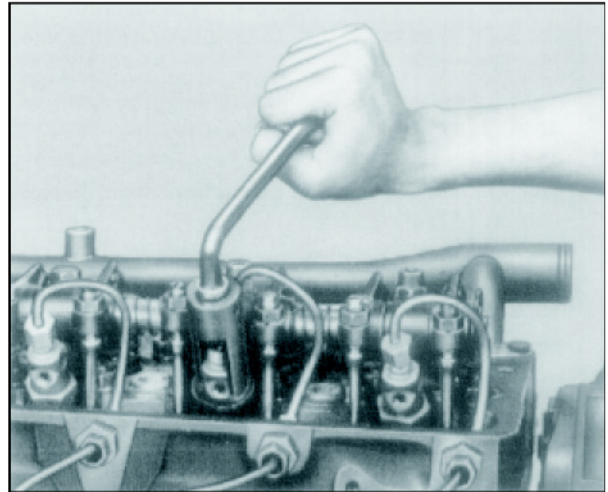
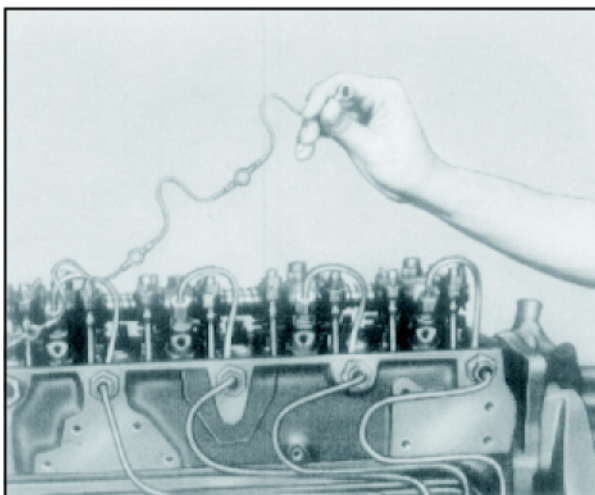

Fig. 15
Fig. 14
6. Unscrew leak off line banjo bolts along with sealing washer and remove leak off line assembly Fig. 14. Unscrew and remove pressure screw holding nozzle holder to the cylinder head with the help of socket, 000 589 0209. Fig. 15.